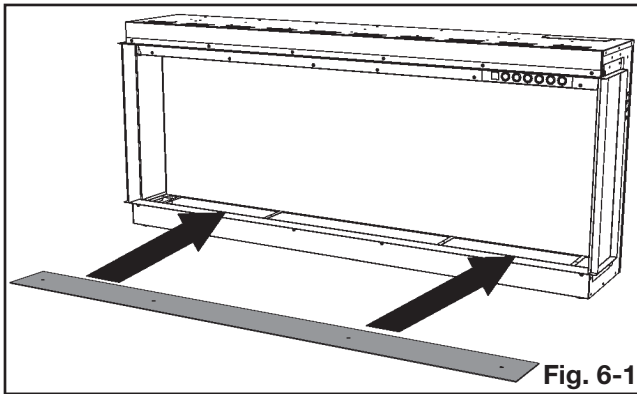

Fig. 6-1
1. Place the media tray in position, ensuring to keep the mat surface facing up. **(Fig. 6-1)**.